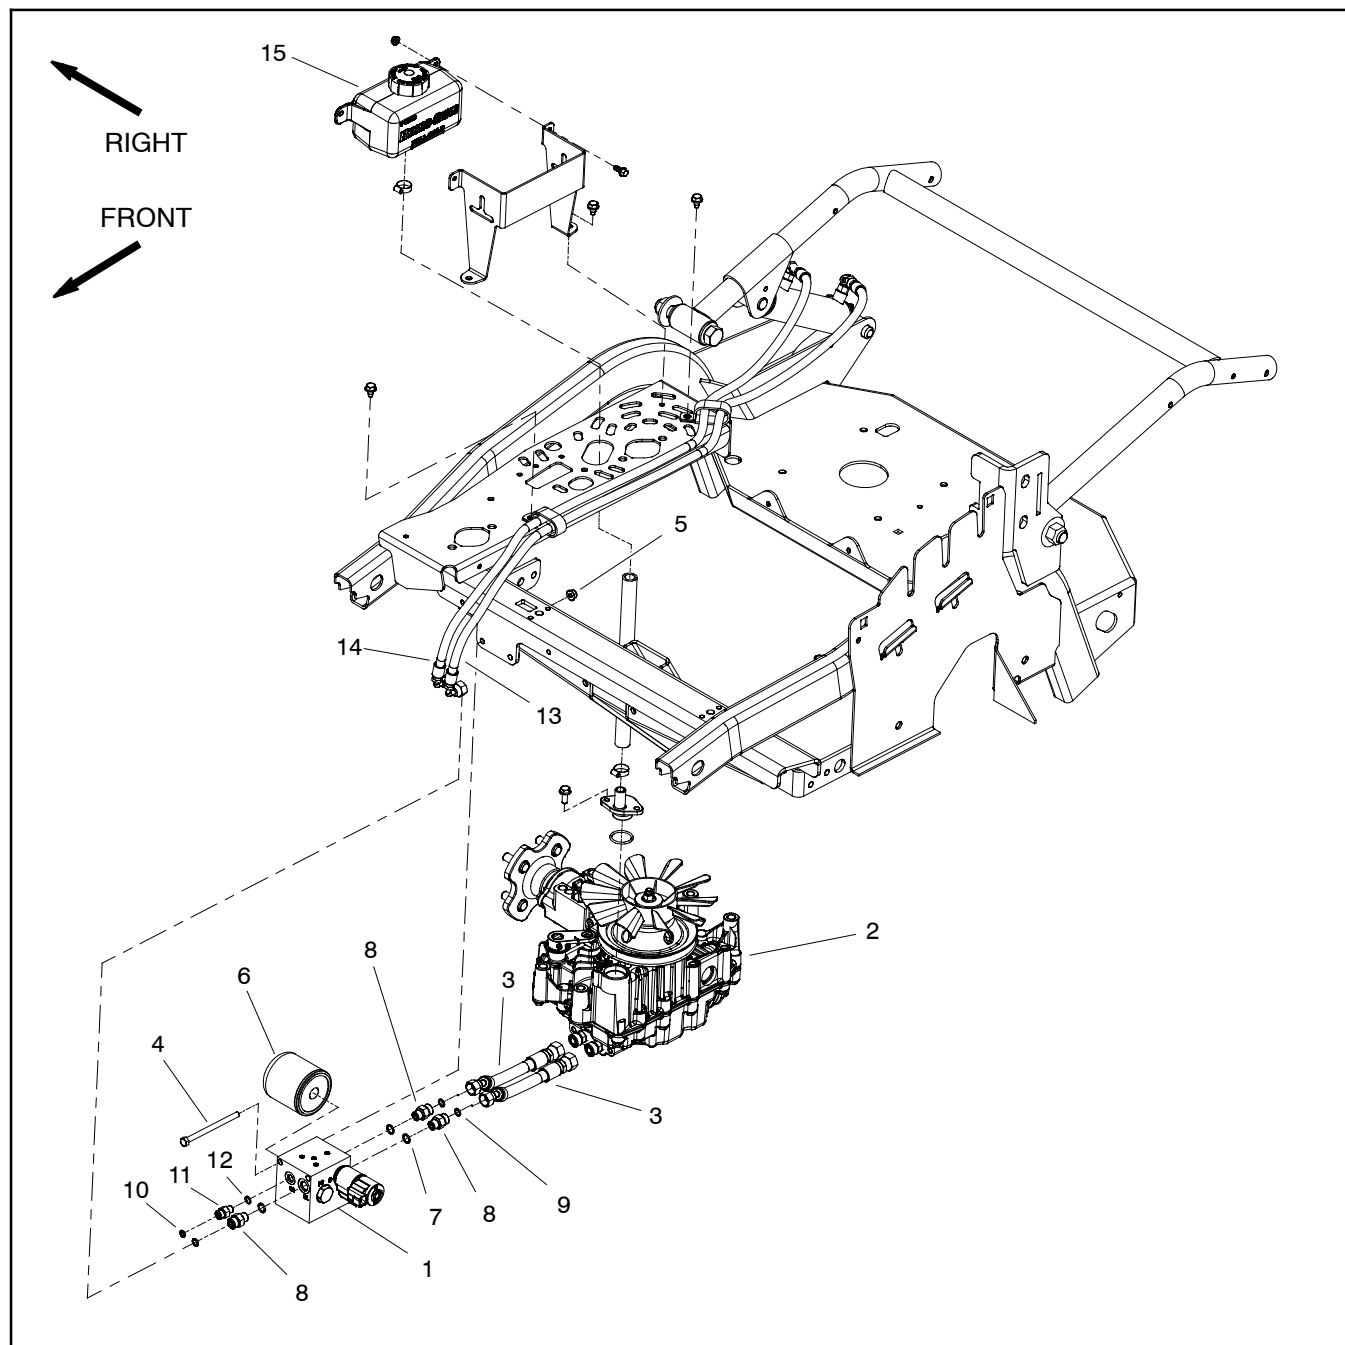

Figure 29
Removal (Fig. 29)
6. Remove control manifold from the frame using Figure 29 as a guide.
Installation (Fig. 29)
2. Install control manifold to the frame using Figure 29 as a guide.